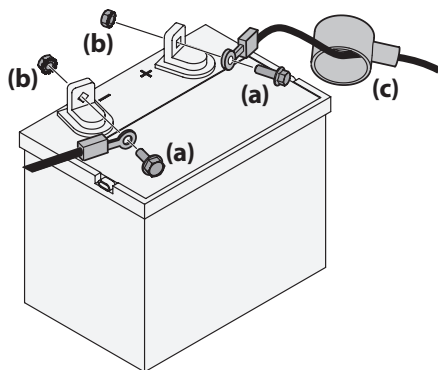

Figure 2-12
- Remove the plastic cover, if present, from the positive battery terminal and attach the red cable to the positive battery terminal (+) with the bolt (a) and hex nut (b). See Figure 2-12.
- Remove the plastic cover, if present, from the negative battery terminal and attach the black cable to the negative battery terminal (-) with the bolt (a) and hex nut (b). See Figure 2-12.